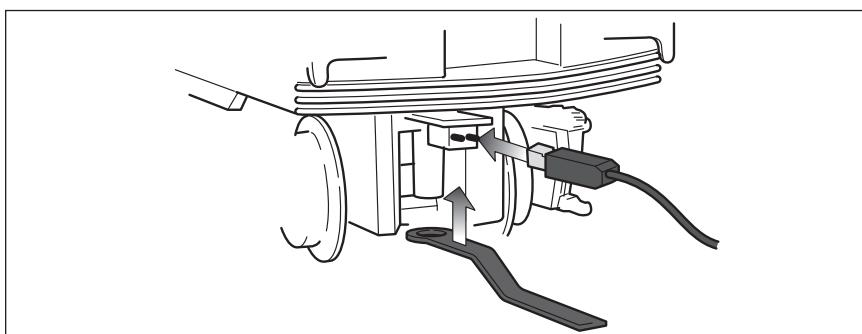

Figure 1. Connections
2. Place your Subway Set on Lionel or Lionel-compatible O-36 or wider track and connect the drawbar and tether between the cars as illustrated in Figure 1. Note that the tether is 'keyed' and will plug in only one way. Connection is marked "UP" for clear identification.
2. Place your Subway Set on Lionel or Lionel-compatible O-36 or wider track and connect the drawbar and tether between the cars as illustrated in Figure 1 on page 4. Note that the tether is 'keyed' and will plug in only one way. Connection is marked "UP" for clear identification.
1. Place your Subway on Lionel or Lionel-compatible O-36 or wider track and connect the drawbar and tether between the cars as illustrated in Figure 1 on page 4. Note that the tether is 'keyed' and will plug in only one way. Connection is marked "UP" for clear identification.
2. Power your Subway Set at 12-18 volts with your alternating current (AC) transformer.